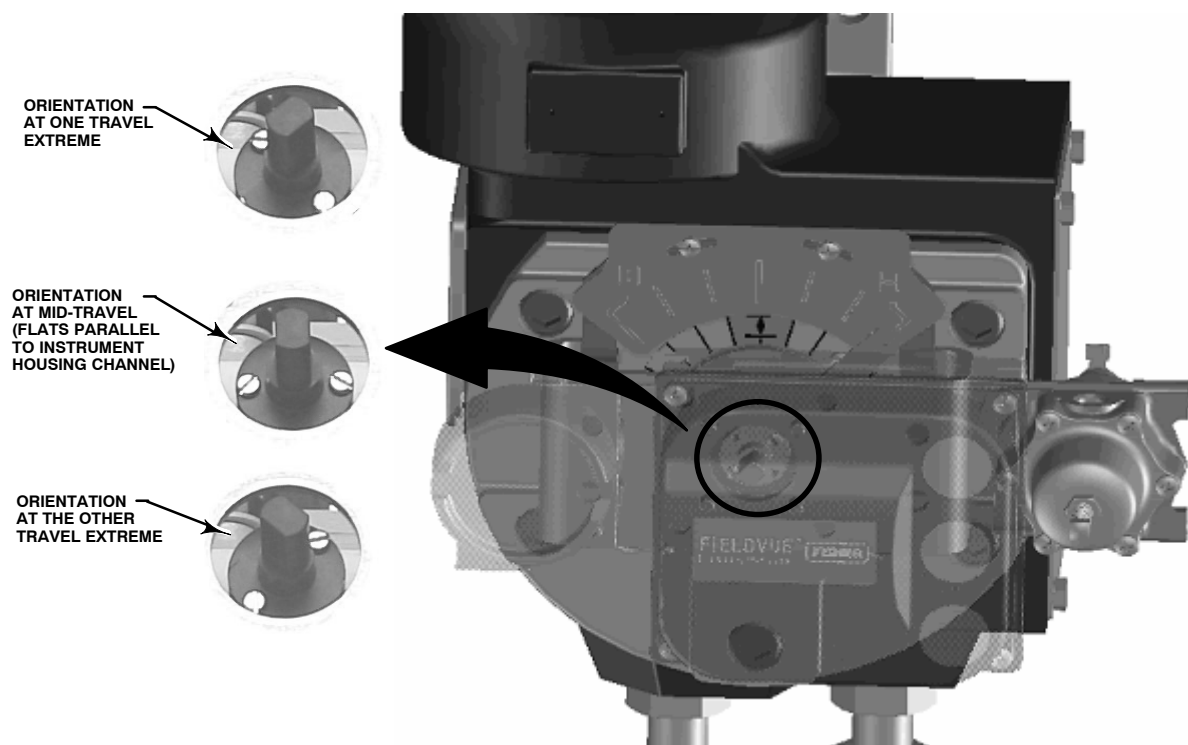
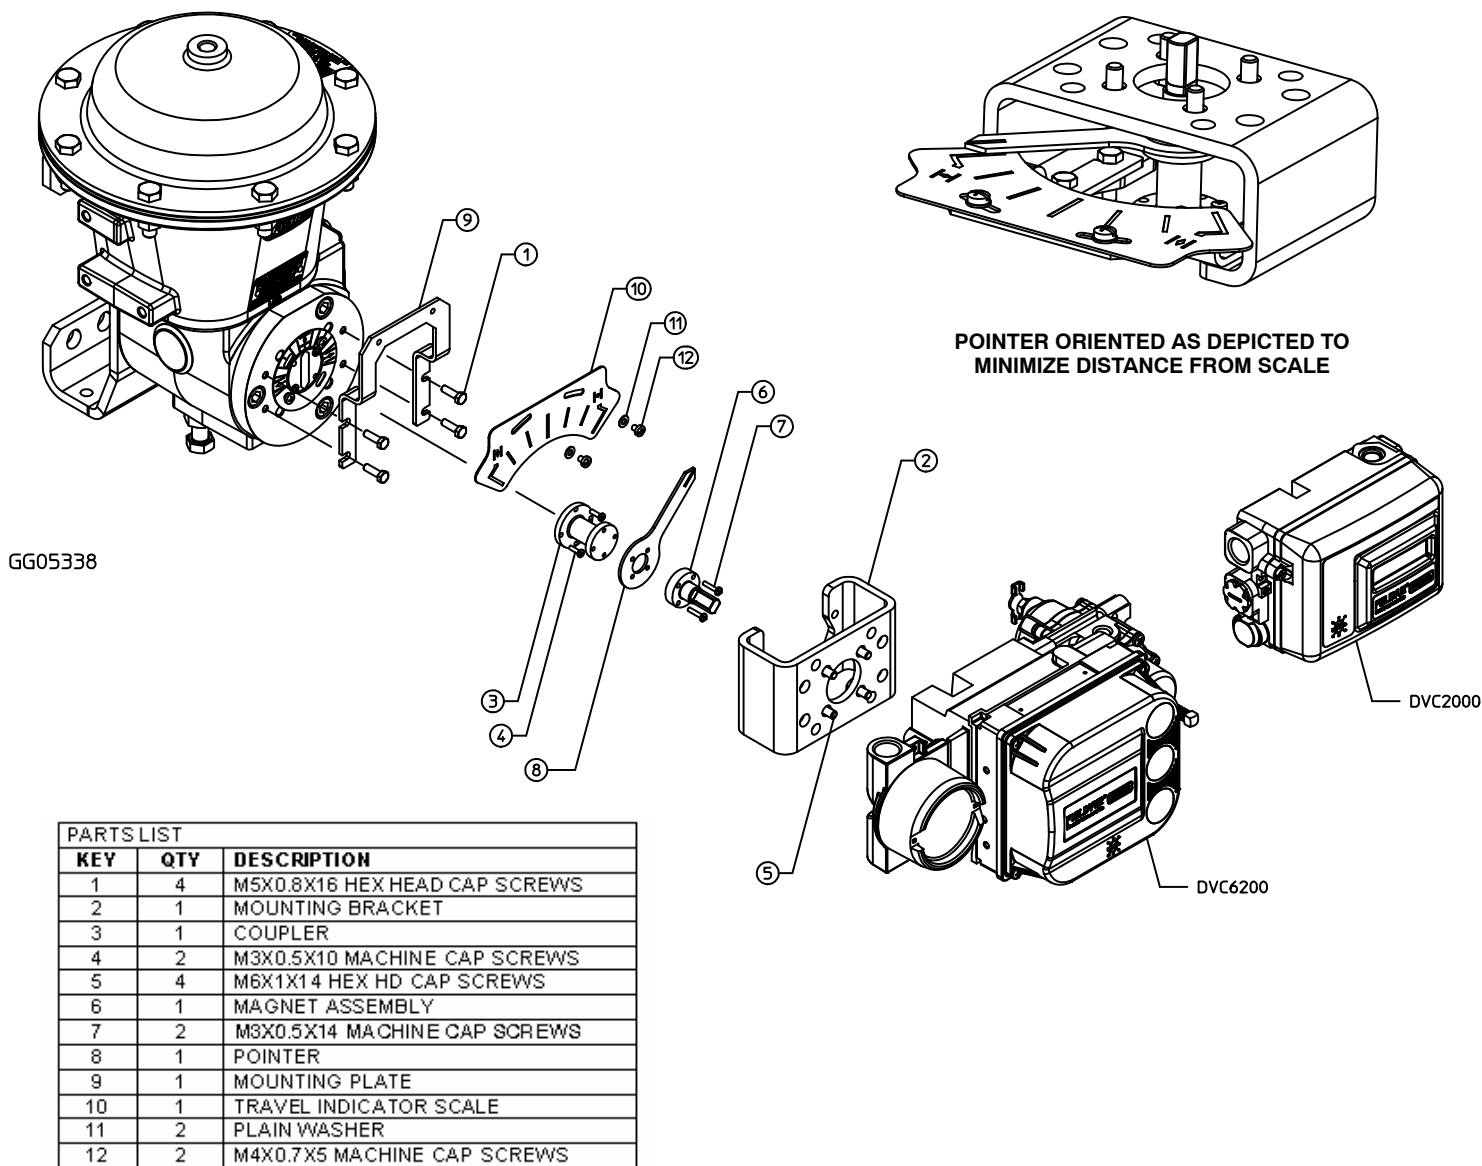

Figure 1. Magnet Assembly Orientation
Figure 2. Mounting Parts Identification
Refer to figure 2 for mounting parts identification. Refer to the DVC6200 or DVC2000 digital valve controller instruction manual for digital valve controller parts identification. Refer to the appropriate actuator instruction manual for actuator installation, operation, maintenance, and parts identification.
2. Attach the coupler (key 3) to the actuator shaft using the machine cap screws (key 4) and tighten.
3. Place the pointer (key 8) before attaching the magnet assembly (key 6) to the coupler using the pan head screws (key 7) and tighten. The magnet assembly must be oriented per figure 1, so that the flats are approximately as shown relative to the channel in the instrument housing at the actuator mid-travel position.
4. Place the mounting bracket (key 2) on the actuator before attaching mounting plate (key 9). Attach both to the actuator using the hex head cap screws (key 1). Visually center the hole in the bracket with the magnet assembly and coupler and tighten the fasteners.
5. Attach the travel indicator scale (key 10) to the mounting plate (key 9) using plain washer (key 11) and cap screws (key 12). Refer to figure 2.
6. Attach the digital valve controller to the mounting bracket using the hex head cap screws (key 5). Visually adjust the digital valve controller so that the magnet assembly is centered in the housing channel and tighten the fasteners.